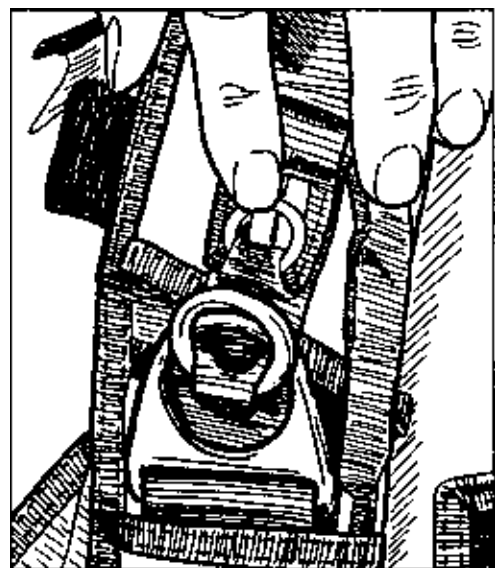

Figure 1
Step 1 With the side of the riser bearing the rings and loop facing the front of the harness, pass the larger ring on the riser through the ring on the harness from the rear and fold it upward. *Figure 1*